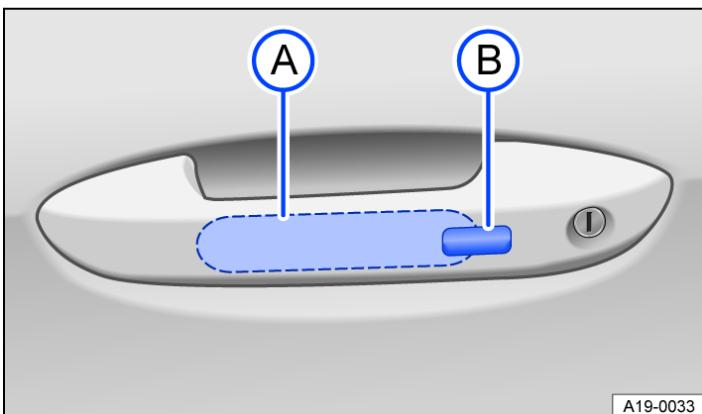

Fig. 1 In the door handle: sensors.
1. Touch the sensor → *Fig. 1* A on the inside of the door handle. All turn signals flash *twice*.
2. Touch the sensor → *Fig. 1* B on the outside of the door handle. All turn signals flash once.